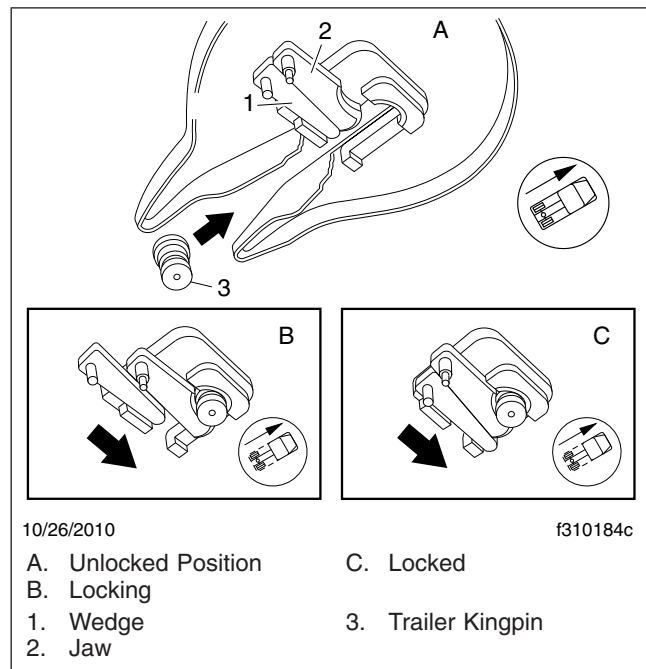

Fig. 10.16, Fontaine Kingpin Lock Mechanism
The Fontaine fifth wheel lock mechanism for the trailer kingpin (Fig. 10.16) consists of a spring-loaded jaw and a sliding wedge.
During coupling (Fig. 10.16), the motion of the kingpin entering the jaw will actuate the jaw and wedge. The jaw will move behind the kingpin, followed by the wedge. The purpose of the wedge is to reinforce the jaw and take up slack around the pin. Any wear on the jaw is immediately taken up by the wedge so there is no slack in the connection.
3. Position the tractor so that the fifth wheel lock opening is in line (both vertically and horizontally) with the trailer kingpin. The kingpin should be in a position to enter the throat of the locking mechanism (Fig. 10.16). Adjust the trailer landing gear to give enough alignment height for positive kingpin lockup.